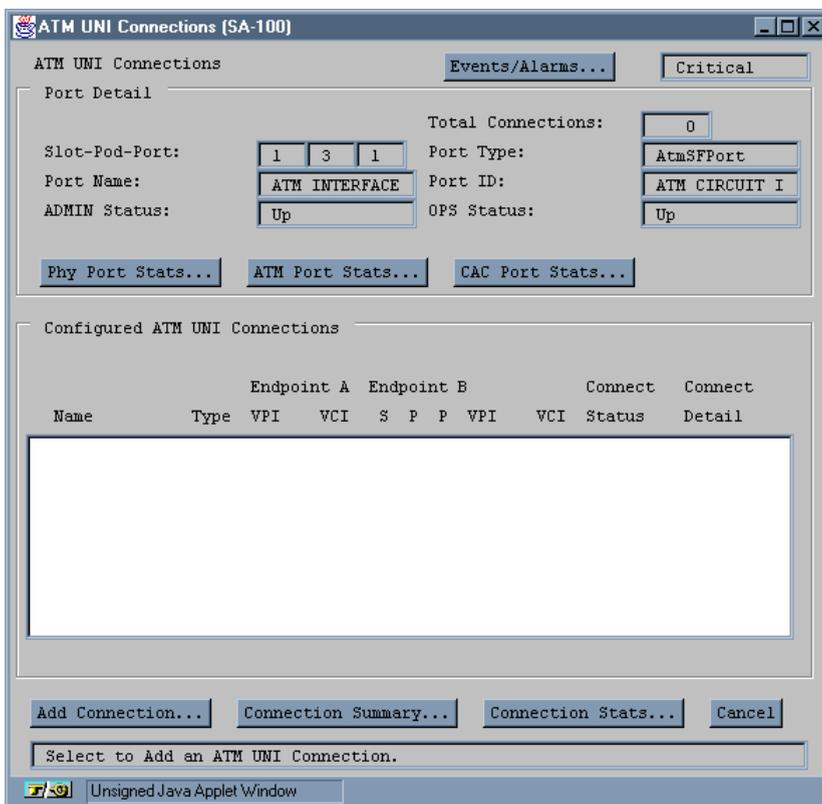
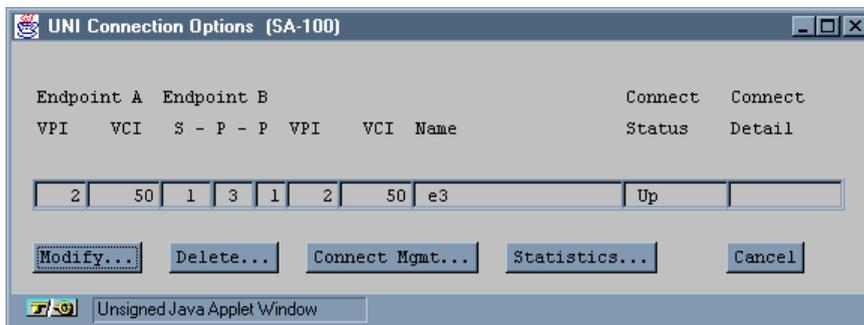

Figure 5-3. ATM UNI Connections Window
Figure 5-5. UNI Connection Options
3. Select the port you want to configure. The ATM UNI Connections window appears (see Figure 5-3).
4. After you configure the ATM interface of a DS1/E1, DS3/E3 Cell or OC-3c/STM-1 Cell port, as described in “Configuring the ATM Interface” on page 4-75, choose the Service Management button. The ATM UNI Connections window appears (see Figure 5-3).
1. Choose the Add Connection button from the ATM UNI Connections window (see Figure 5-3 on page 5-4). The Add ATM UNI Connection window appears (see Figure 5-4).
1. Select the connection from the defined connections list in the ATM UNI Connections window (Figure 5-3). The UNI Connection Options window appears (Figure 5-5):
1. Select the connection from the Configured ATM UNI Connections list. The UNI Connection Options window appears (Figure 5-5).
1. Select the connection from the connections list in the ATM UNI Connections window (Figure 5-3). The UNI Connection Options window appears (Figure 5-5).